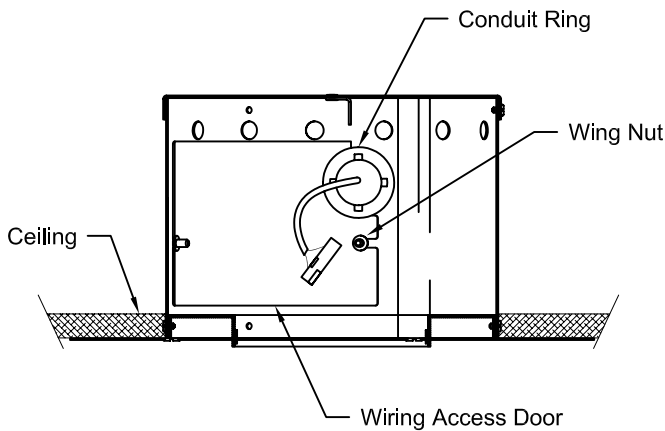

Figure 3
1. Remove factory installed Wiring Access Door on Fixture. See Fig. 3. Retain Wing Nuts and Door for re-installation.